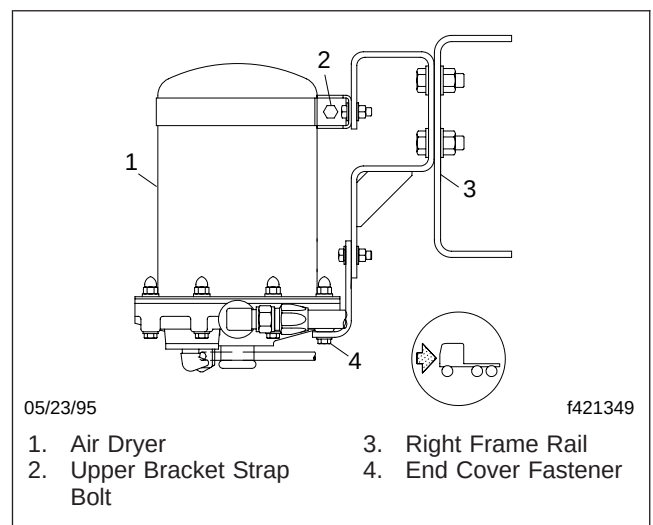

Fig. 1, Air Dryer Mounting
1. Position the air dryer up into the upper mounting bracket and strap. See Fig. 1. Align the two unused holes in the end cover with the bottom mounting bracket so that the bottom bracket supports the air dryer. The end cover should rest on the bracket.
Figure 1 shows an exploded view of the AD-9 air dryer.